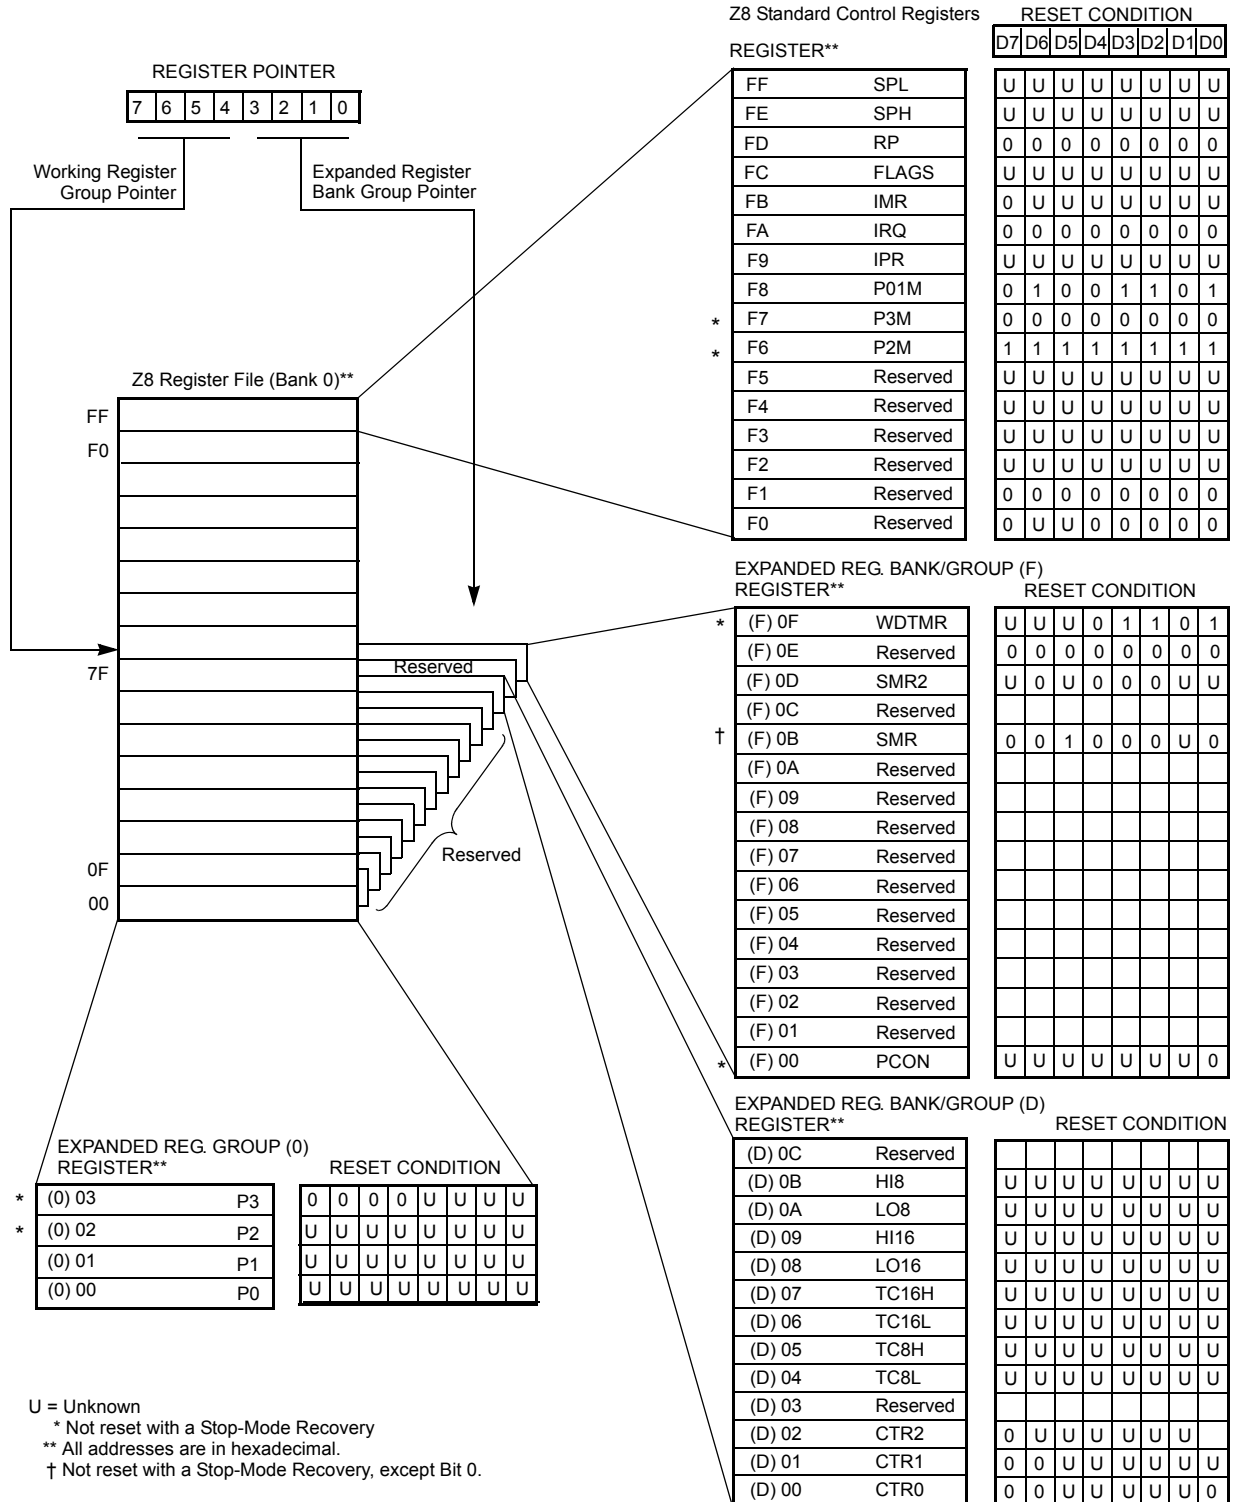

Figure 22. Expanded Register File Architecture
- ▶ **Note:** The expanded register bank is also referred to as the expanded register group (see Figure 22).
For example, Z86E73 (see Figure 22):